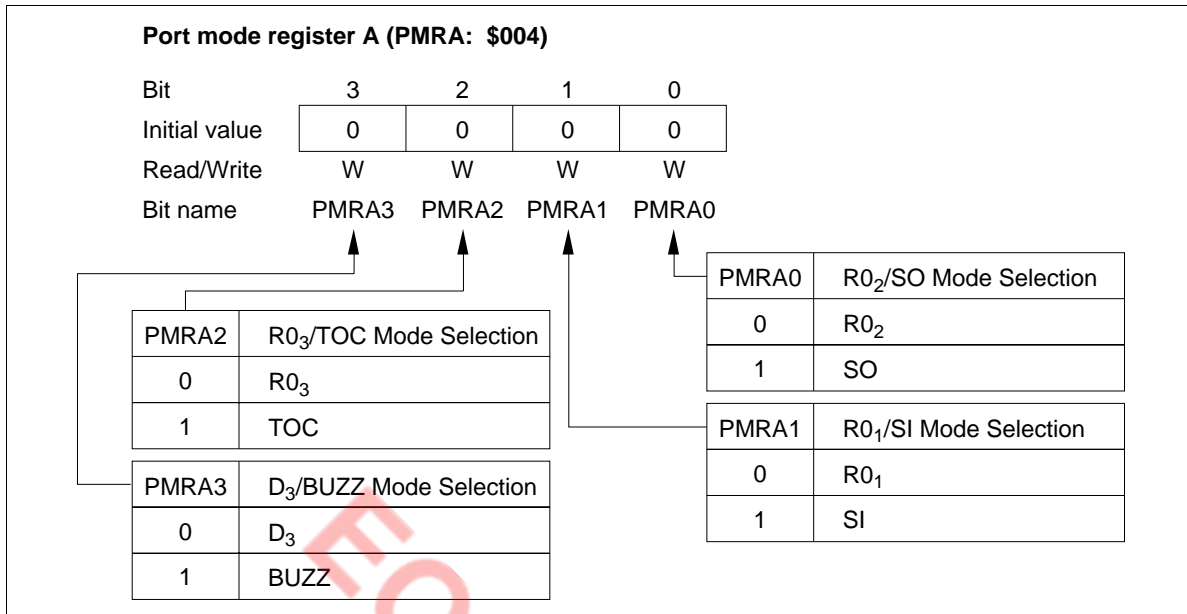

Figure 51 Port Mode Register A (PMRA)
- Port mode register A (PMRA: \$004): Write-only register that selects R0₃/TOC pin function as shown in figure 51. It is reset to \$0 by MCU reset.
Port Mode Register A (PMRA: \$004): Four-bit write-only register that selects D_3 /BUZZ pin function as shown in figure 51. It is reset to \$0 by MCU reset.